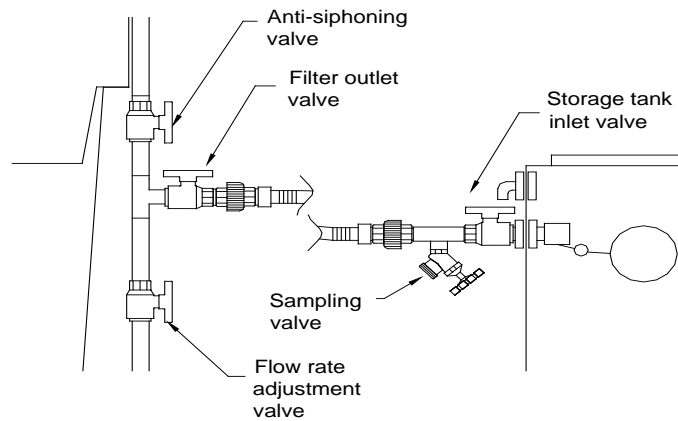

Figure 5-2
**Step 5.** Open the anti-siphoning valve. Close the storage tank inlet valve. Open the sampling valve at the storage tank inlet (Figure 5-2). Be prepared to collect water from this point during the next step.